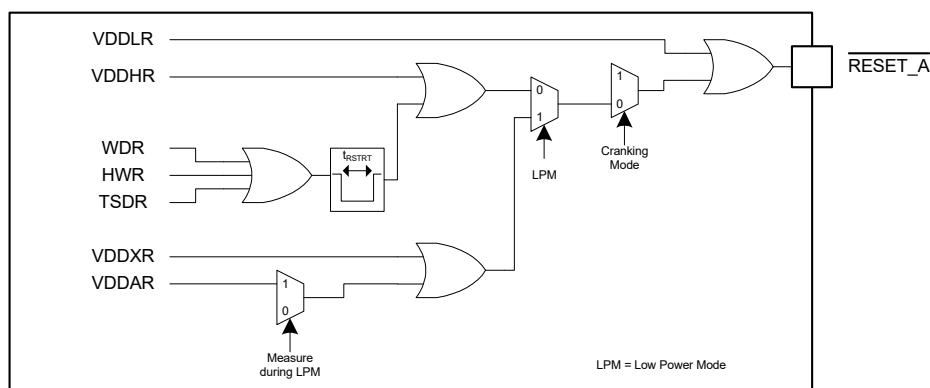

Figure 27. Analog die reset implementation
- The Voltage at the VDDL, VDDH, VDDX, or VDDA has dropped below its reset threshold level. The source will be indicated for the VDDL by the LVRF + HVRF, for the VDDA by the AVRF, and for the VDDH by the HVRF bit. VDDX resets are not indicated via individual reset flags. See Figure 27 for dependencies.